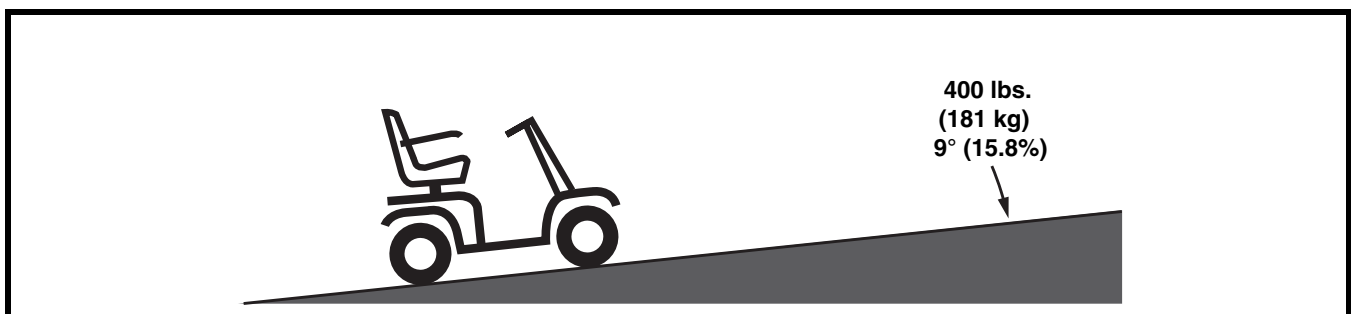

Figure 1. Maximum Recommended Incline Angle
**WARNING! Even though your scooter is capable of climbing slopes greater than those illustrated in figure 1, do not, under any circumstances, exceed the incline guidelines or any other specifications presented in this manual. Doing so could cause instability in your scooter.**
Handicap public access ramps are not subject to government regulation in all countries and therefore do not necessarily share the same standard percent of slope. Other inclines may be natural or, if man-made, not designed specifically for scooters. Figure 1 illustrates your scooter's stability and its ability to climb grades under various weight loads and under controlled testing conditions.
**WARNING! Any attempt to climb or descend a slope steeper than what is shown in figure 1 may put your scooter in an unstable position and cause it to tip.**